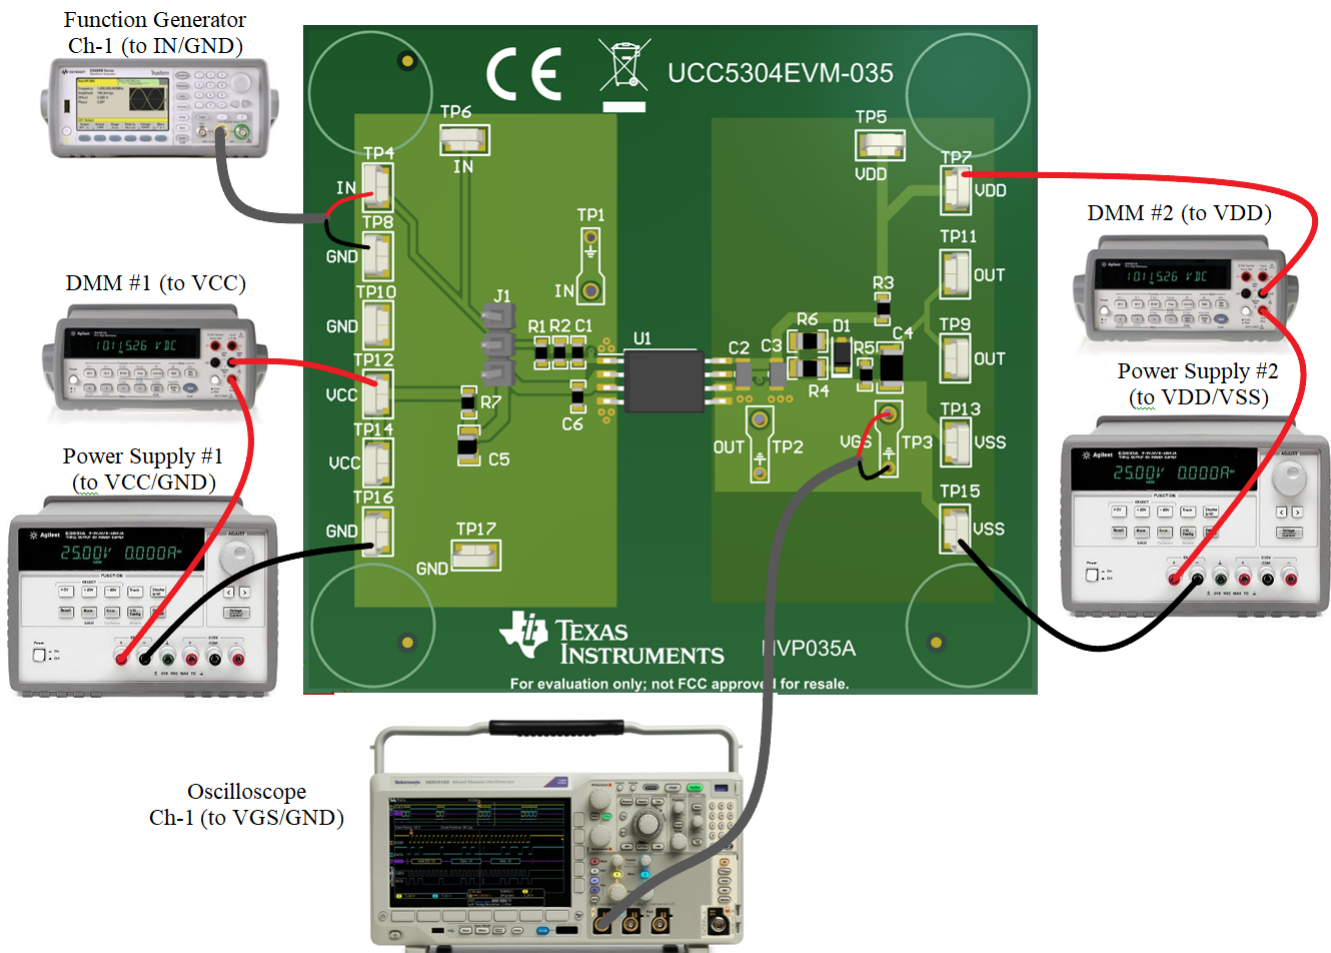

Figure 2. Bench Setup Diagram and Configuration
Follow this connection procedure, Figure 2 can be used as a reference.
2. Connect the function generator channel 1 to TP4 (IN) and TP8 (GND), see Figure 2.